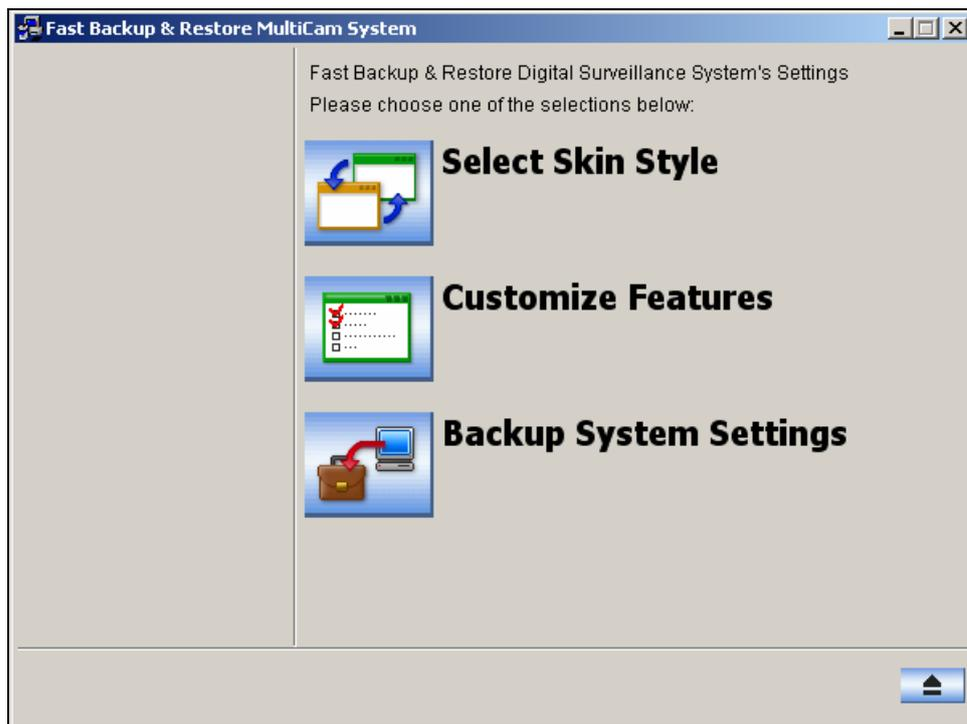

Figure 10-36 FBR Window
1. In the FBR window (Figure 10-36), click the **Select Skin Style** icon. The option menu appears.
1. In the FBR window (Figure 10-36), click the **Select Skin Style** icon, point to **DVR**, and then select **Custom Logo**. This window appears.
1. In the FBR Window (Figure 10-36), click the **Customize Features** icon to display this dialog box.